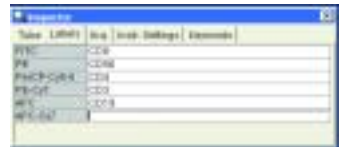

Figure 6.
- Use the Labels tab in the Inspector to label one Tube at a time (Figure 6).